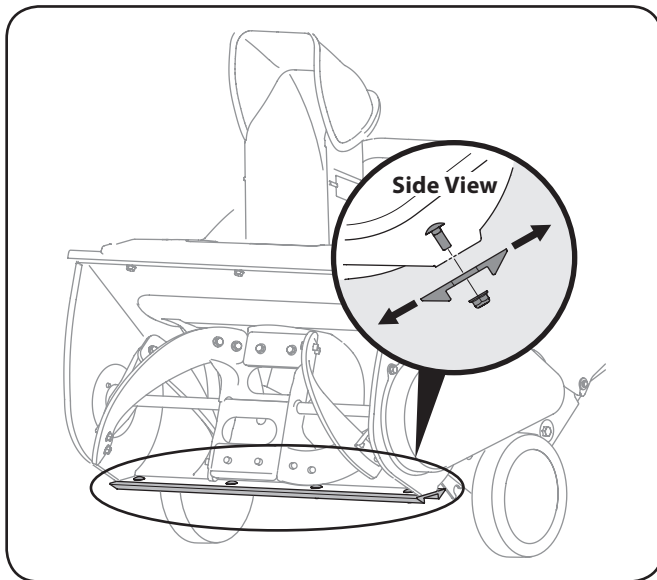

Figure 6-1
2. To adjust, tip the snow thrower back so that it rests on the handle. Loosen the four lock nuts and bolts which secure the shave plate to the housing. See Figure 6-1. Move the shave plate to desired position and retighten the nuts and bolts securely.
3. Adjust the shave plate as instructed on page 11. Refer to Figure 6-1.